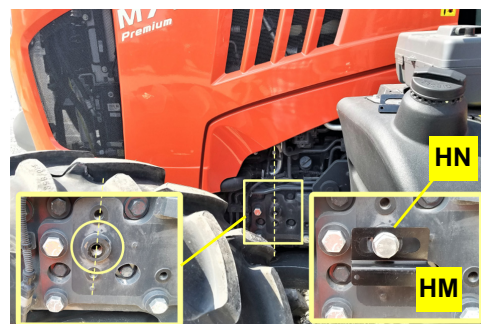
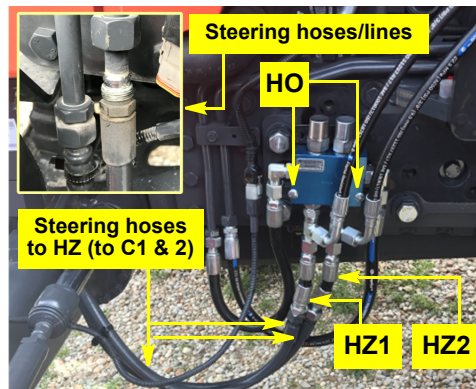

Figure 7b: CBV mounting bracket installation
Figure 7c: Steering lines and CBV installed - connections 1
- b. At the front left side of the machine, near the (steel) steering line to (rubber) hose connections (Figure 7c inset, next page), identify the middle ('bossed') hole of three in a vertical line in the machine's chassis (Figure 7b, main and left inset). Using hardware **HN**, attach CBV mounting bracket **HM** to the machine (Figure 7b, right inset).
- c. Using hardware **HO**, attach **HI** to its mounting bracket (Figure 7c).
- d. Disconnect the nearby steering hoses from the vertical steering lines from the orbital steering valve (Figure 7c inset).
- e. Using short hoses **HZ1** and **HZ2**, extend the machine's steering hoses to connect them to the open T end of run tees **HL** in the C ports of the CBV (Figure 7c).